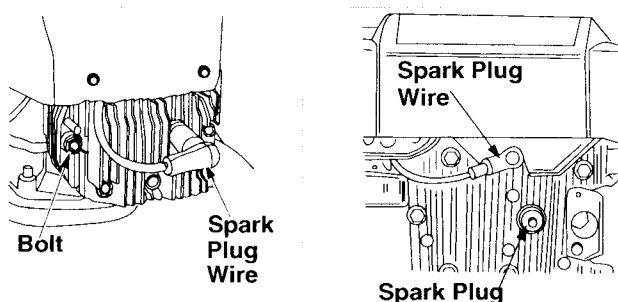

Figure 2
2. If engine is equipped with a rubber boot, attach rubber boot to a bolt on the engine to ground. See Figure 2.